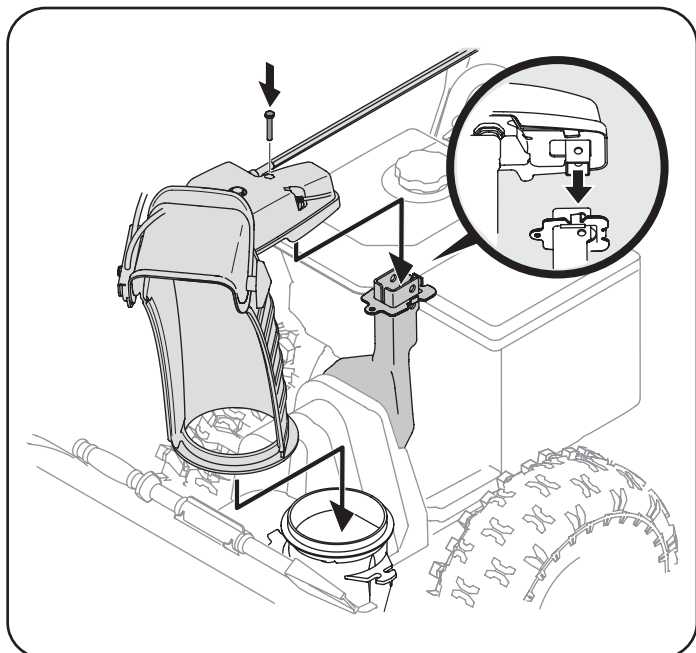

Figure 6
5. Place chute onto chute base and ensure chute control rod is positioned under handle panel. Install hex screw removed in Step 2 but do not secure with wing nut at this time. See Figure 6.